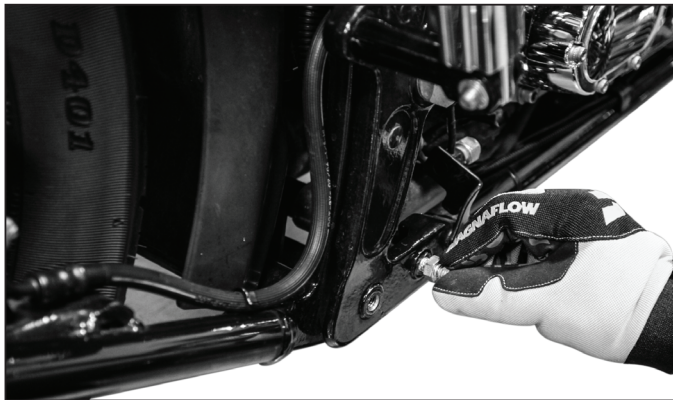

Fig. 1
6. Locate and remove the two exhaust mounting studs from the frame (Figure 1).